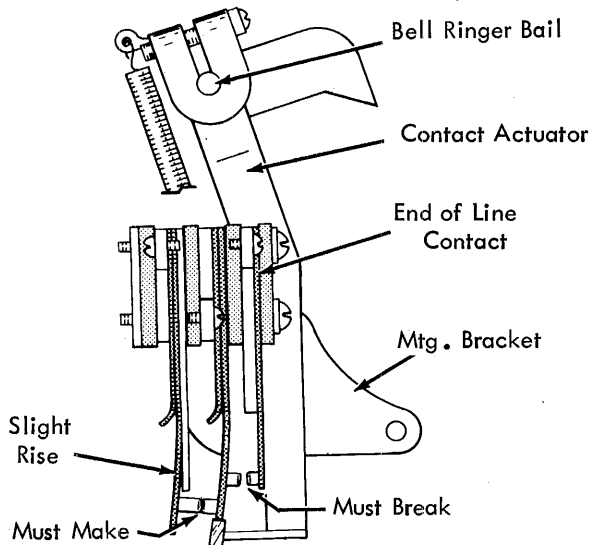

FIGURE 257. Last Column Contact Adjustment (Early)
- d. As the carrier moves from the next to last space, check for the following conditions (Fig. 257).